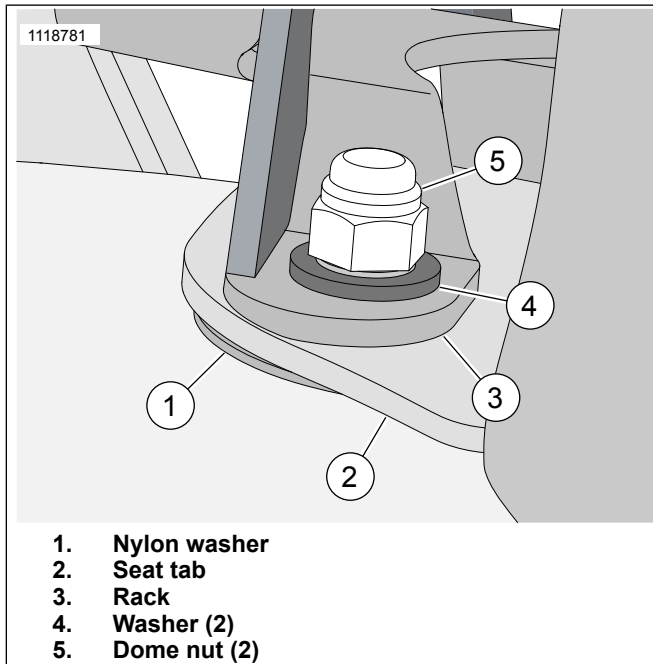
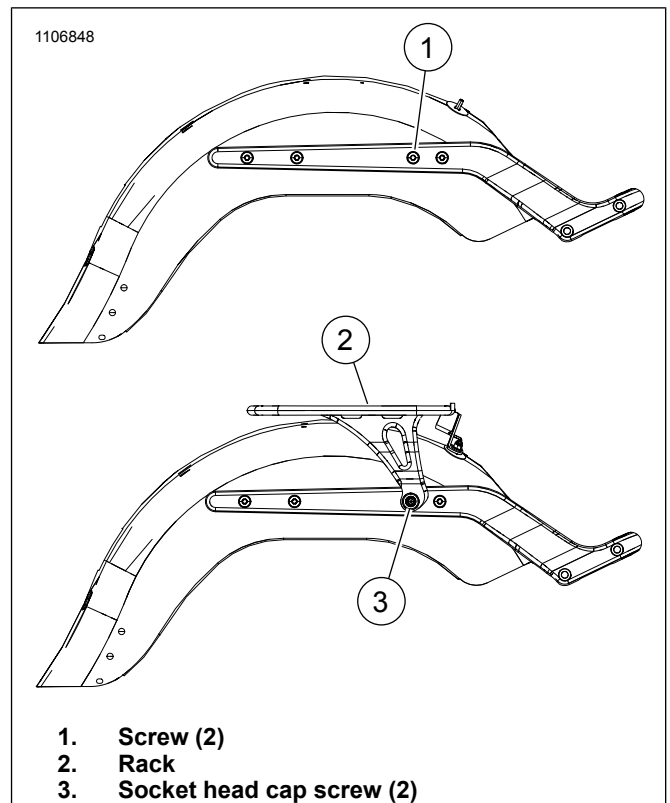

Figure 5. Hardware Installation
Figure 6. Kits 50300154 and 50300156
2. See Figure 6. Remove screws (1) from fender.
- a. See Figure 5. Make sure nylon washer (1) and seat tab (2) are properly positioned on the studs.
- b. Position rack (3) on seat tab (2).
- c. Loosely install washers (4) and nuts (5).
- d. See Figure 6. Align holes in side plate of rack with fender.
- e. Loosely install both socket head cap screw (3) to hold rack in position.
- f. Remove one socket head cap screw (3) and apply threadlocker.